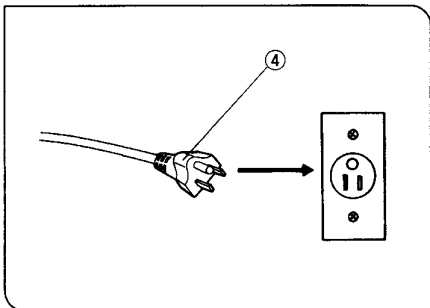

Fig. 10
2. Plug the power cord plug ④ into a wall outlet. (Fig. 10)